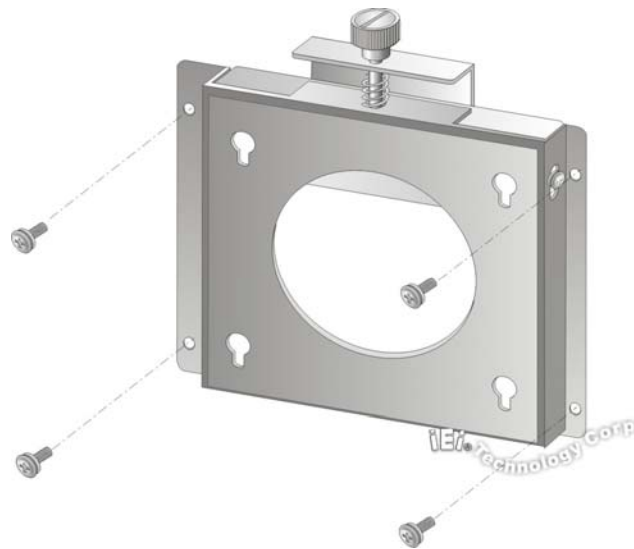

Figure 4-12: Wall-mounting Bracket
- Step 5:** Secure the mounting-bracket to the wall by inserting the retention screws into the four pilot holes and tightening them (**Figure 4-12**).